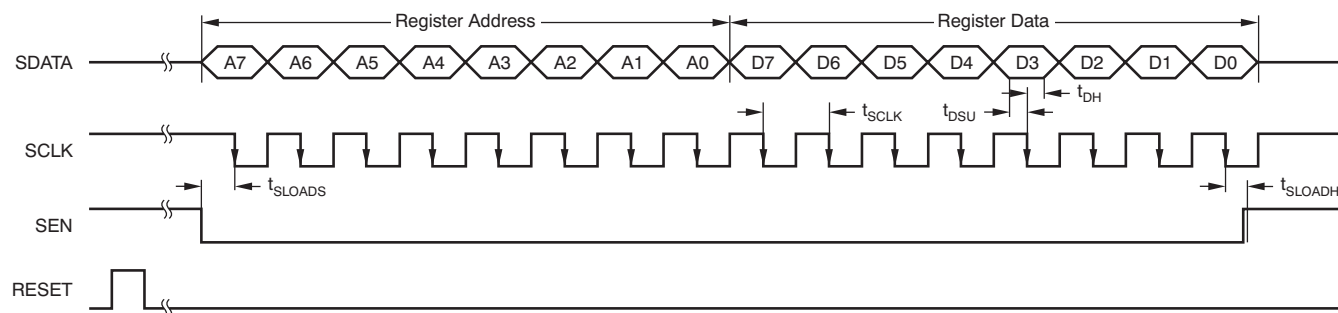

Figure 12. Serial Interface Timing
1. Either through hardware reset by applying a high pulse on the RESET pin (of width greater than 10ns), as shown in Figure 12; or